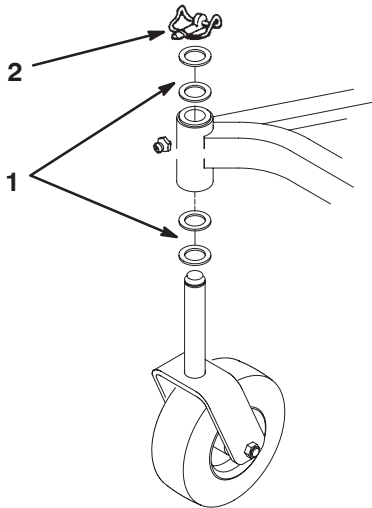

Figure 31
- A. Cutting units usually operated at 1 to 2 in. (25 to 51 mm) height-of-cut should have the low side of the cutting unit raised. Remove the lynch pin securing the castor wheel on the low end (Fig. 31) and remove the castor assembly.
- C. If the cutting unit is operated at the 2 to 4 in. (51 mm to 102 mm) height-of-cut, lower the high side of the cutting unit. Remove the lynch pin of the castor at the high end of the unit and remove the castor assembly (Fig. 31).